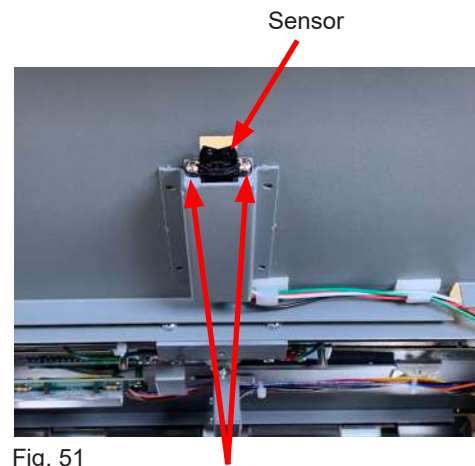

Fig. 51
4. The sensor is located under the in-feed extension tray. Remove the photo-eye mounting screws (Fig. 51).